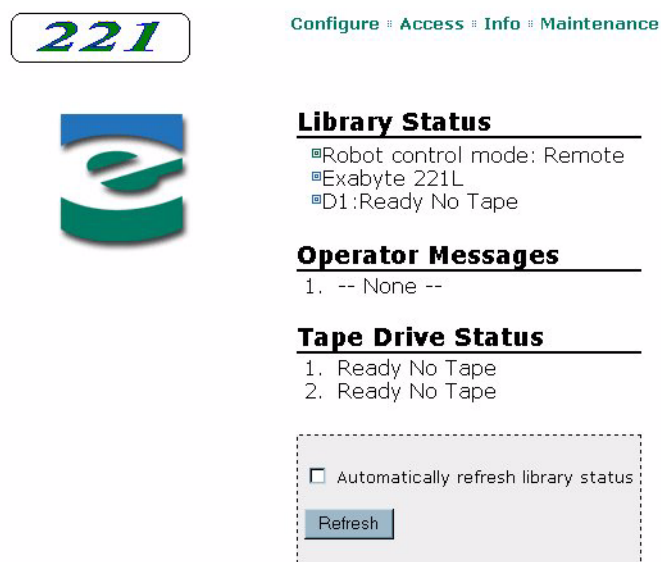

Figure 6-1 Remote management utility – Home page
5. Press Enter. The utility's Home page appears. Figure 6-1 shows an example of the Home page.